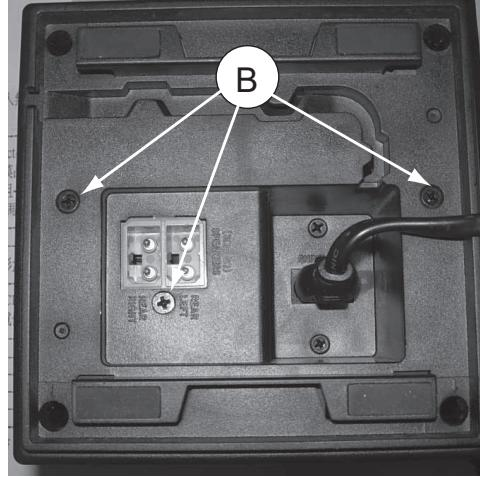

Figure 2
-3 screws "B" on the bottom as shown in figure 2;